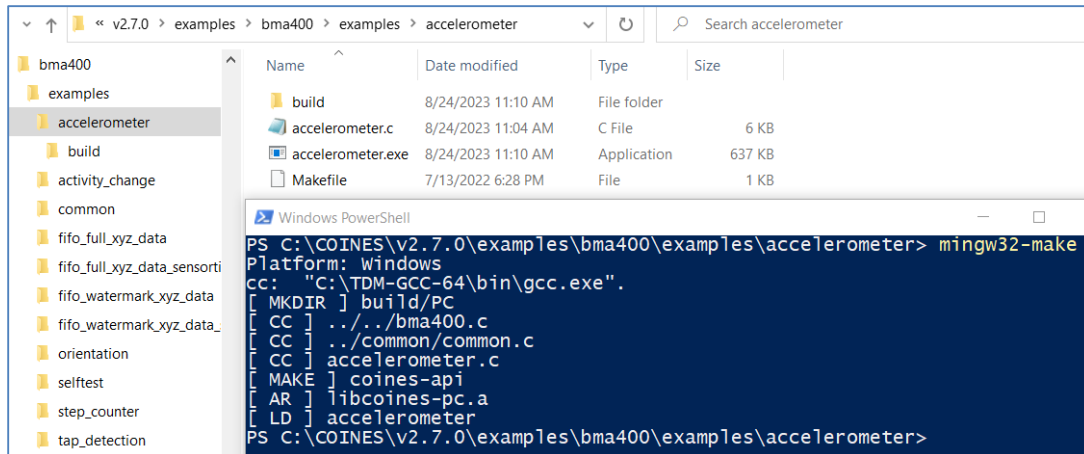

Figure 4 The EXE file is generated
- Type mingw32-make and then press Enter key. The “accelerometer.exe” file will be generated as shown in Figure 4.
- In PowerShell window as shown in Figure 4 type command, `mingw32-make LOCATION=FLASH TARGET=MCU_APP30` download and then press Enter key as shown in Figure 8. If users type command, `mingw32-make LOCATION=RAM TARGET=MCU_APP30` download and then press Enter key, the firmware will be downloaded to the RAM of APP3.0 MCU. When APP3.0 is powered off the firmware will be gone. Users need to run the above command again.